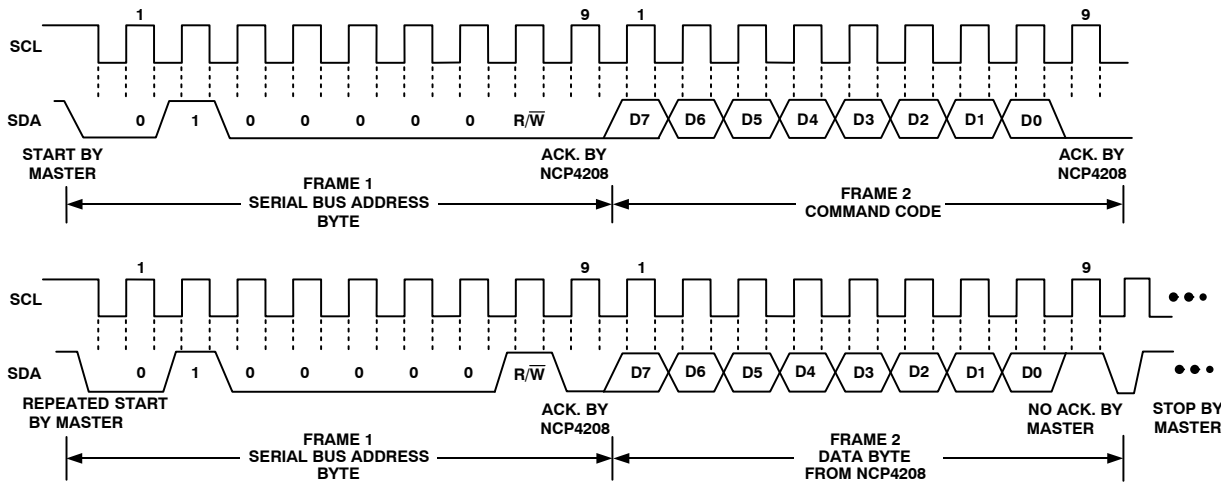

Figure 13. Read Byte
2. The read byte operation is shown in Figure 13. First the command code needs to be written to the NCP4208 so that the required data is sent back. This is done by performing a write to the NCP4208 as before, but only the data byte containing the register address is sent, because no data is written to the register. A repeated start is then issued and a read operation is then performed consisting of the serial bus address; R/W bit set to 1, followed by the data byte read from the data register.